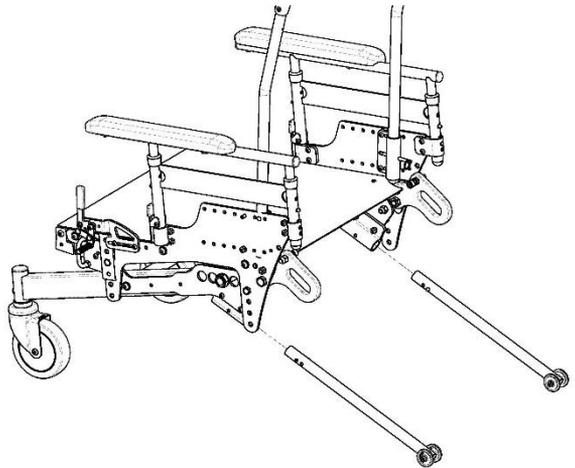

Figure 12.21: Installing Anti-tip Tubes
1. Press and hold the release button on the anti-tip tube. (See Figure 12.21)